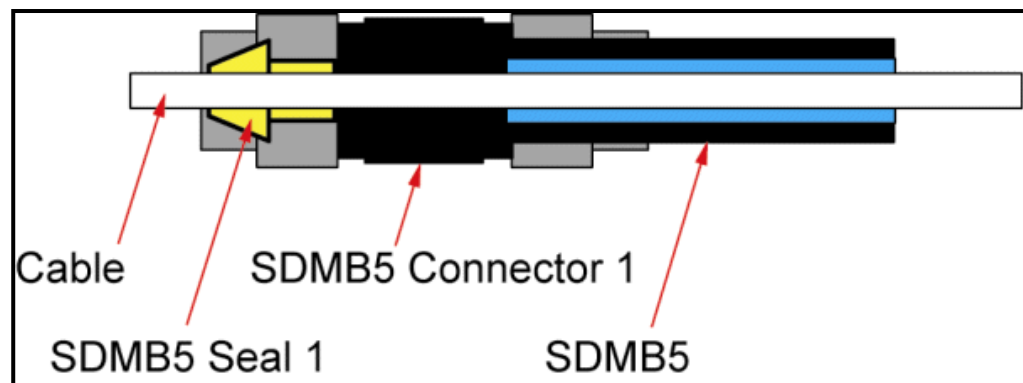

Figure 2 Schematic diagram of cable and sub-duct sealing arrangement
17. At both ends of route fit SDMB5 Seal 1 (split seal) around cable, insert into Connector 1 and tighten collar to compress seal to give a fully water tight cable/subduct seal, as shown in Figure 2.